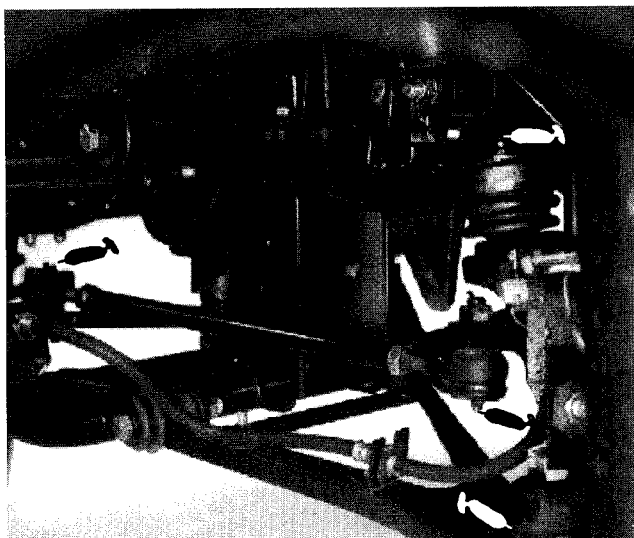
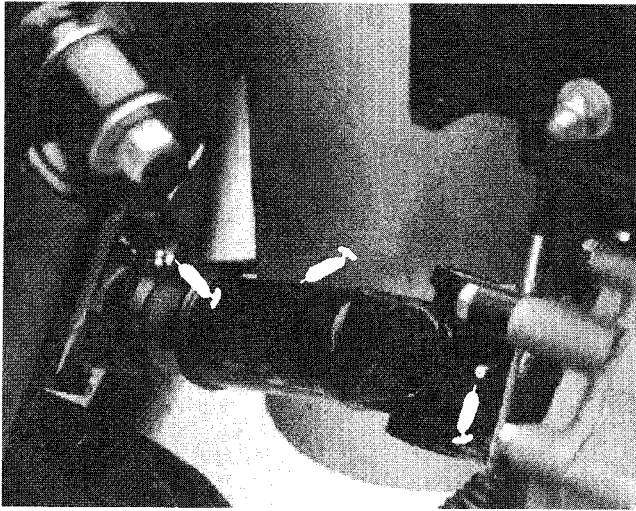
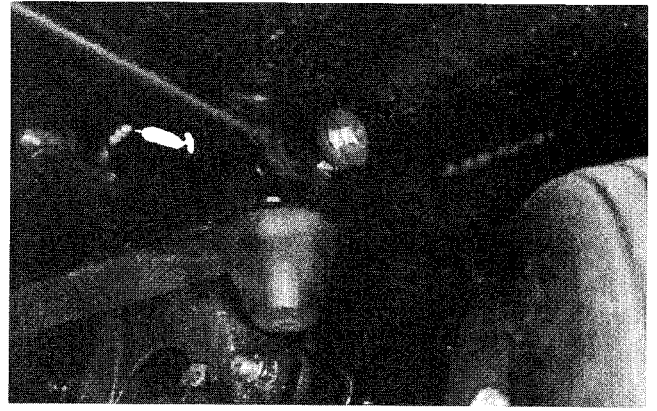
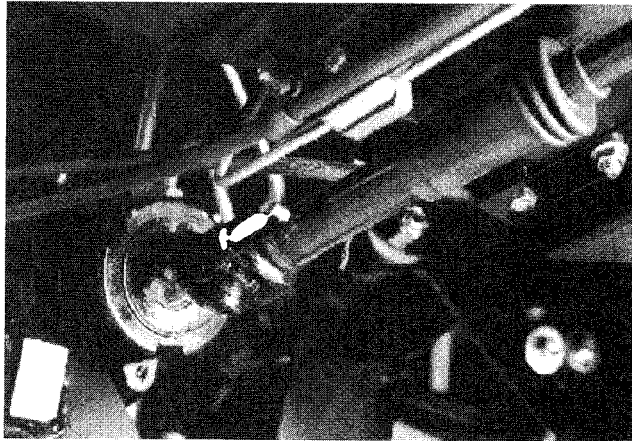

Figure 27
Figure 28
Figure 29
Figure 30
The grease fitting locations and quantities are: Tie rod ends (4) (Fig. 27), Front ball joints (4) (Fig. 27), Rear drive shafts (18) (Fig. 28) Front pivot bushings (2) (Fig. 29) and Steering shaft (1) (Fig. 30).